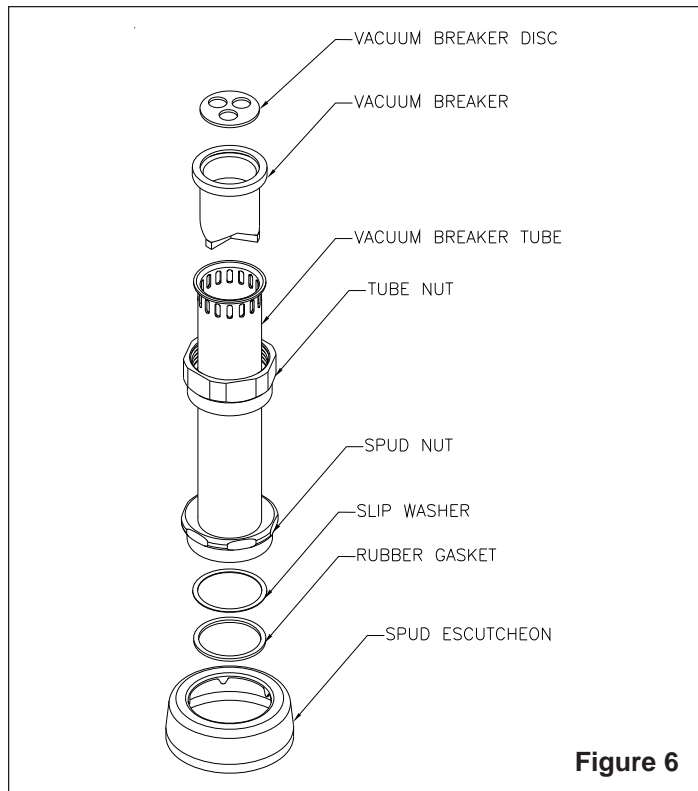

Figure 6
STEP 6 - Vacuum Breaker Flush Connection (Figure 6)